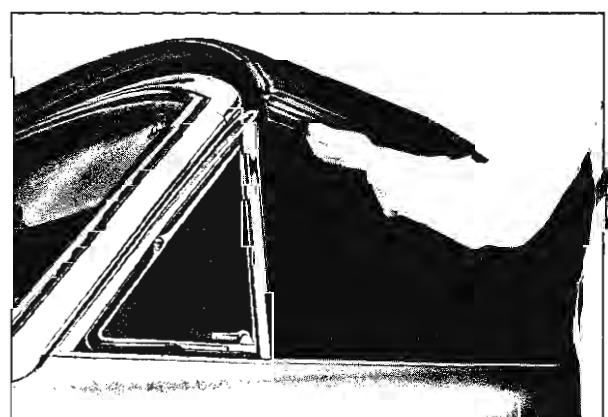

Fig. 21-8 Rotating Top Rearward
A. Standing along side of car, place palm of hand against middle of side roof rail front section. Lift up forward portion of top assembly and rotate top rearward (Fig. 21-8).